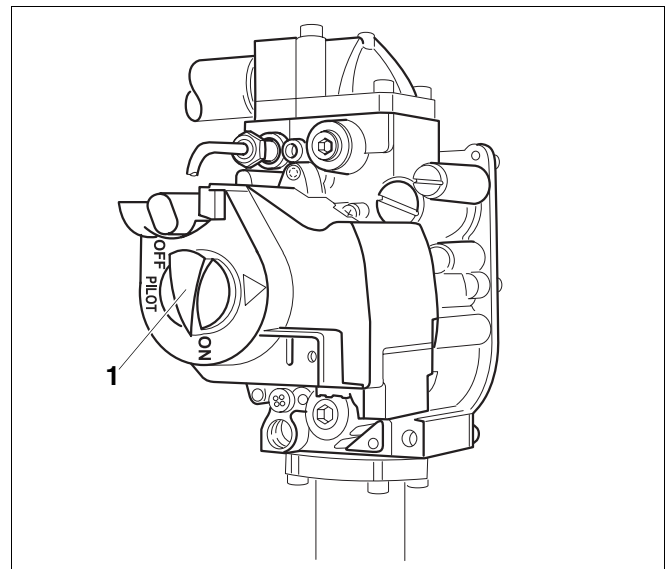

Fig. 18 GC124 SP gas valve
8. If the ignition burner continues to go out after several attempts, turn the ON/OFF knob on the gas valve to OFF immediately to prevent gas from leaking. Check ignition gas line for leaks with soapy water. If no leaks are found, continue with step 9. If leaks have been found, turn ON/OFF knob on gas valve (→ Fig. 18) clockwise to the "OFF" position.
10. The gas valve ON/OFF knob (→ Fig. 18) can only be set to ON if the red pilot ignition button is out. Turn main power switch of the heating system ON.